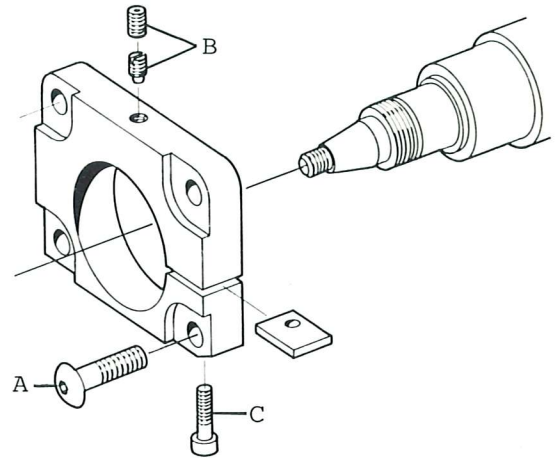

Fig. 1G. Direct drive spindle front support.
5. Remove screw (A) at the lower right of the spindle front support (see Fig. 1G).
6. Remove the top set screws (B) in the front support.
7. Loosen spindle clamping screw (C).